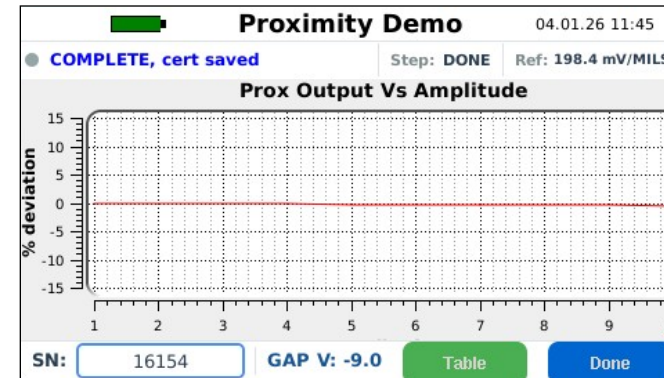

Figure 45
5. Select the **Start** button to begin the auto test. Select the **Table/Graph** button to toggle between graph view (Figure 45) and table view (Figure 46).